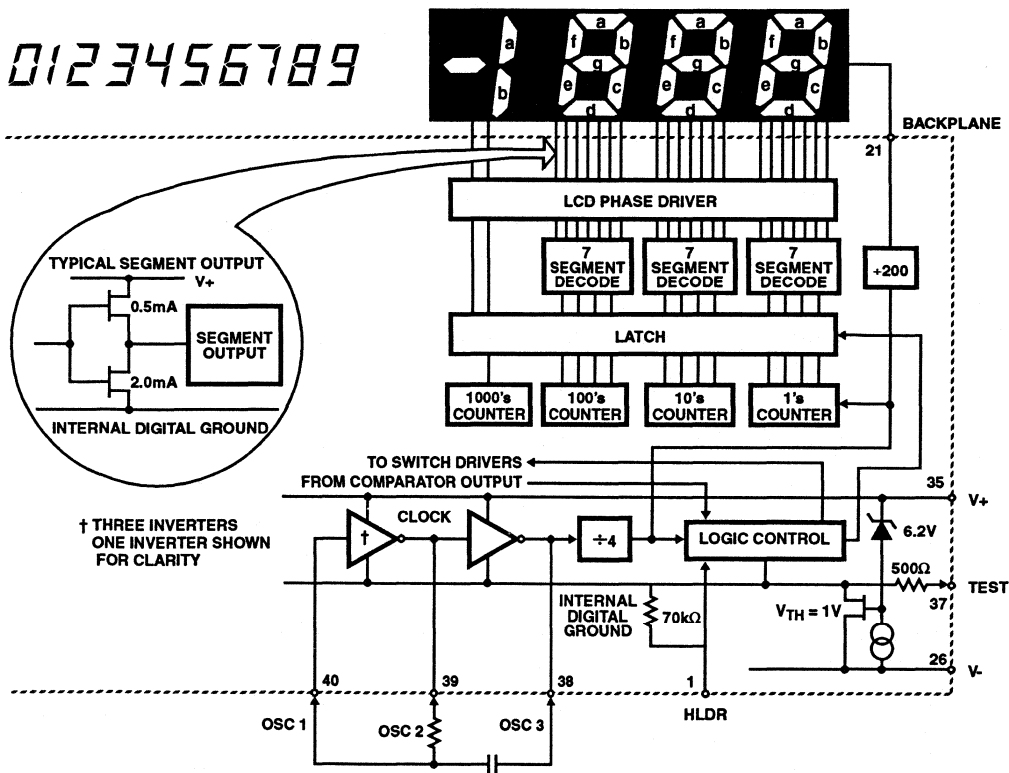

FIGURE 7. ICL7116 DIGITAL SECTION
The HLDR input will prevent the latch from being updated when this input is at logic "1". The chip will continue to make A/D conversions, however, the results will not be updated to the internal latches until this input goes low. This input can be left open or connected to TEST (ICL7116) or GROUND (ICL7117) to continuously update the display. This input is CMOS compatible, and has a 70kΩ (See Figure 7) typical resistance to either TEST (ICL7116) or GROUND (ICL7117).
Figures 7 and 8 show the digital section for the ICL7116 and ICL7117, respectively. In the ICL7116, an internal digital ground is generated from a 6V Zener diode and a large P-channel source follower. This supply is made stiff to absorb the relative large capacitive currents when the back plane (BP) voltage is switched. The BP frequency is the clock frequency divided by 800. For three readings/second this is a 60Hz square wave with a nominal amplitude of 5V. The segments are driven at the same frequency and amplitude and are in phase with BP when OFF, but out of phase when ON. In all cases negligible DC voltage exists across the segments.